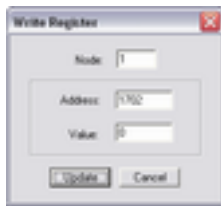

Fig. 326: Write register - resetting the default values
- ⇒ Fig. 326 shows how the parameter is enabled using the ModScan32 Software. The value must be set to "1" to enable the parameter.